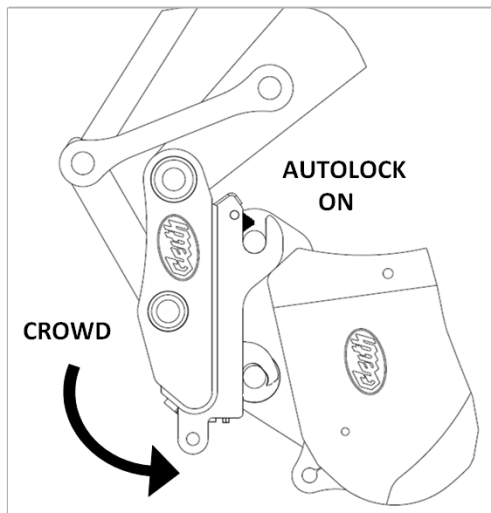
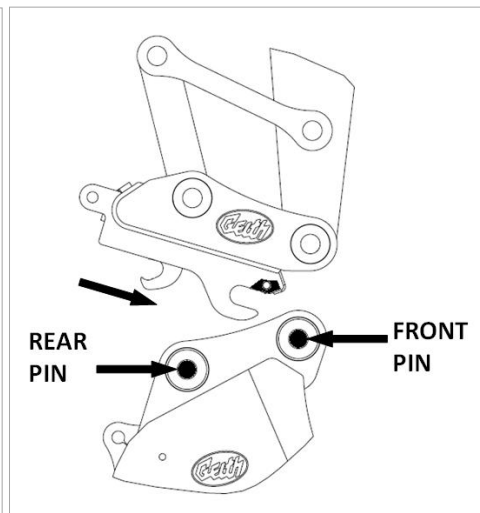

Fig. 15
Fig. 16
4. Lower the attachment to the ground and release it from the Quick Coupler by crowding the Quick Coupler outwards away from attachment pins. See fig.15 and fig. 16.